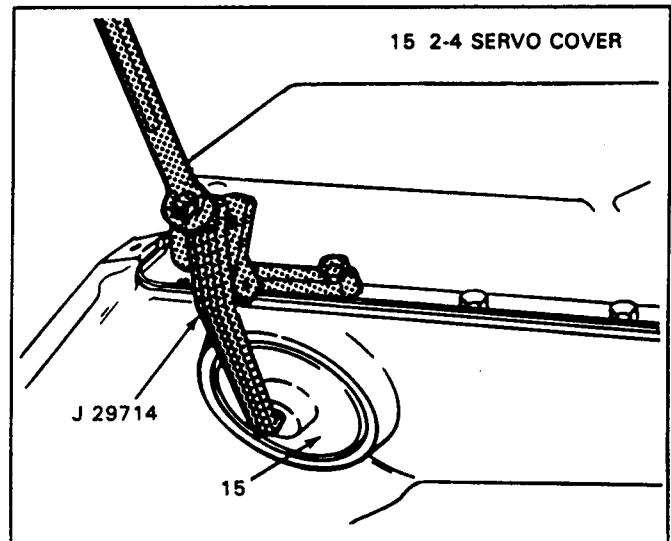

Figure 43
1. Install J-29714 servo cover compressor, as shown in Figure 43.